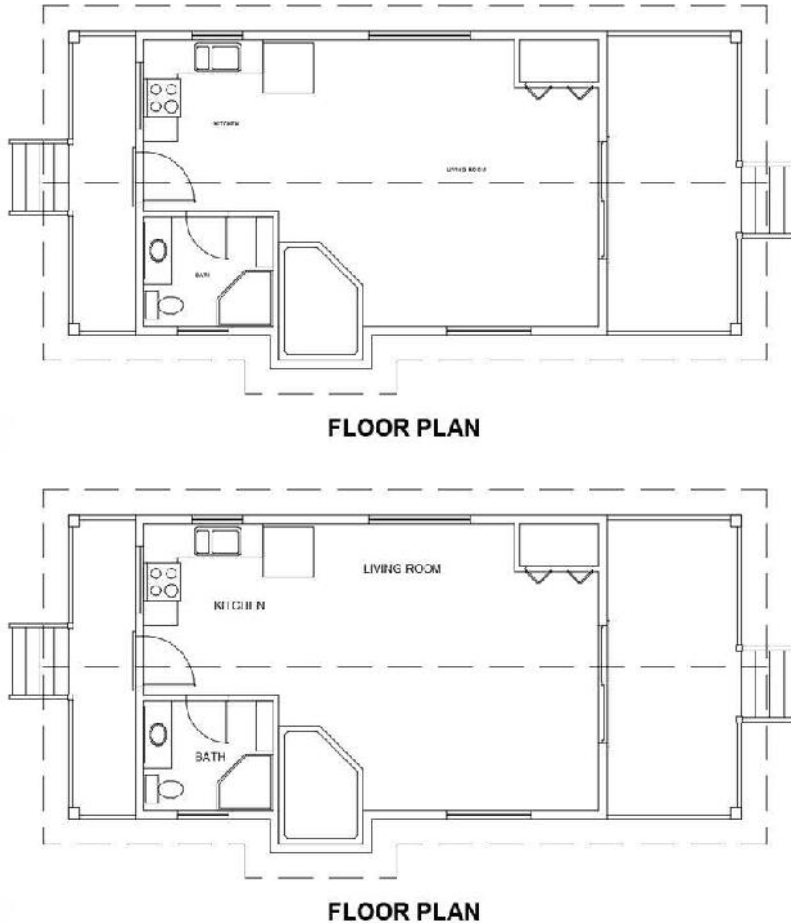

FIGURE 8.21: Room label locations at an annotation scale of $1/2" = 1'-0"$ (1:30) (top) and $1/4" = 1'-0"$ (1:50) (bottom)
8. Click the grip to activate it. The LIVING ROOM text is attached to the cursor and moves with it (see the top of Figure 8.21).
The text size for each of the room labels gets larger, and the location for the LIVING ROOM text reverts to its original location, as shown at the bottom of Figure 8.21.